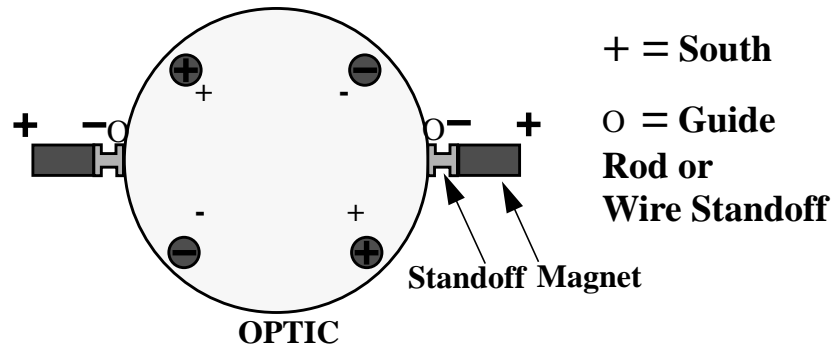

Fig. 1. Configuration of the magnet/standoff assembly as viewed from the back side (AR surface).
14. Prepare the Grippers with Magnets: Insert the magnets into the grippers, magnet first, leaving the dumbbell standoff protruding from the end. Lay the grippers out in such a way so that you keep track of which gripper holds which type of magnet (N or S). Make sure that each magnet/dumbbell standoff are inserted into the grippers equal amounts. (In other words, don't have one magnet /dumbbell standoff sticking out of the gripper further than another set.) See Figure 1 below for polarity layout. The magnets are placed so that polarities of the magnets alternate; this is to prevent the mass from being shaken in position and orientation, by time-varying ambient magnetic fields.